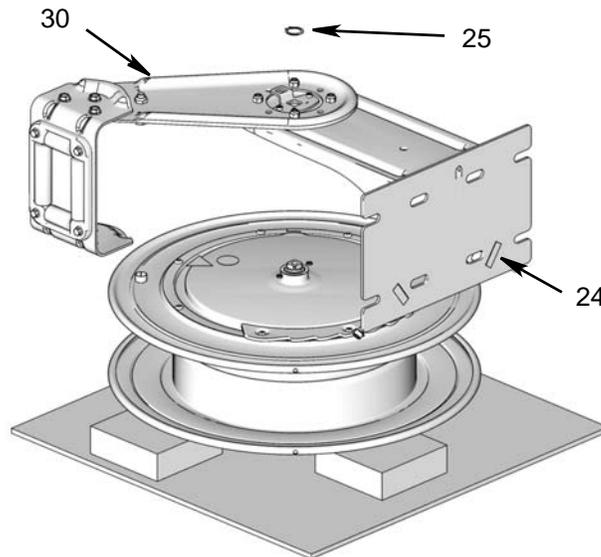

FIG. 8
1. Place new spool (9) on its side on a work bench (FIG. 8).
NOTE: It is easier to reattach the guide arm and pedestal assembly to the spool if the spool is supported and somewhat level. Placing a couple blocks of 1" thick scrap wood under the spool as shown in FIG. 8 will help support the spool during the arm installation.
3. Position guide arm and pedestal base (24 / 30) assembly over spool. Adjust as needed to correctly align parts (FIG. 8).
4. Replace snap ring (25) (FIG. 8).